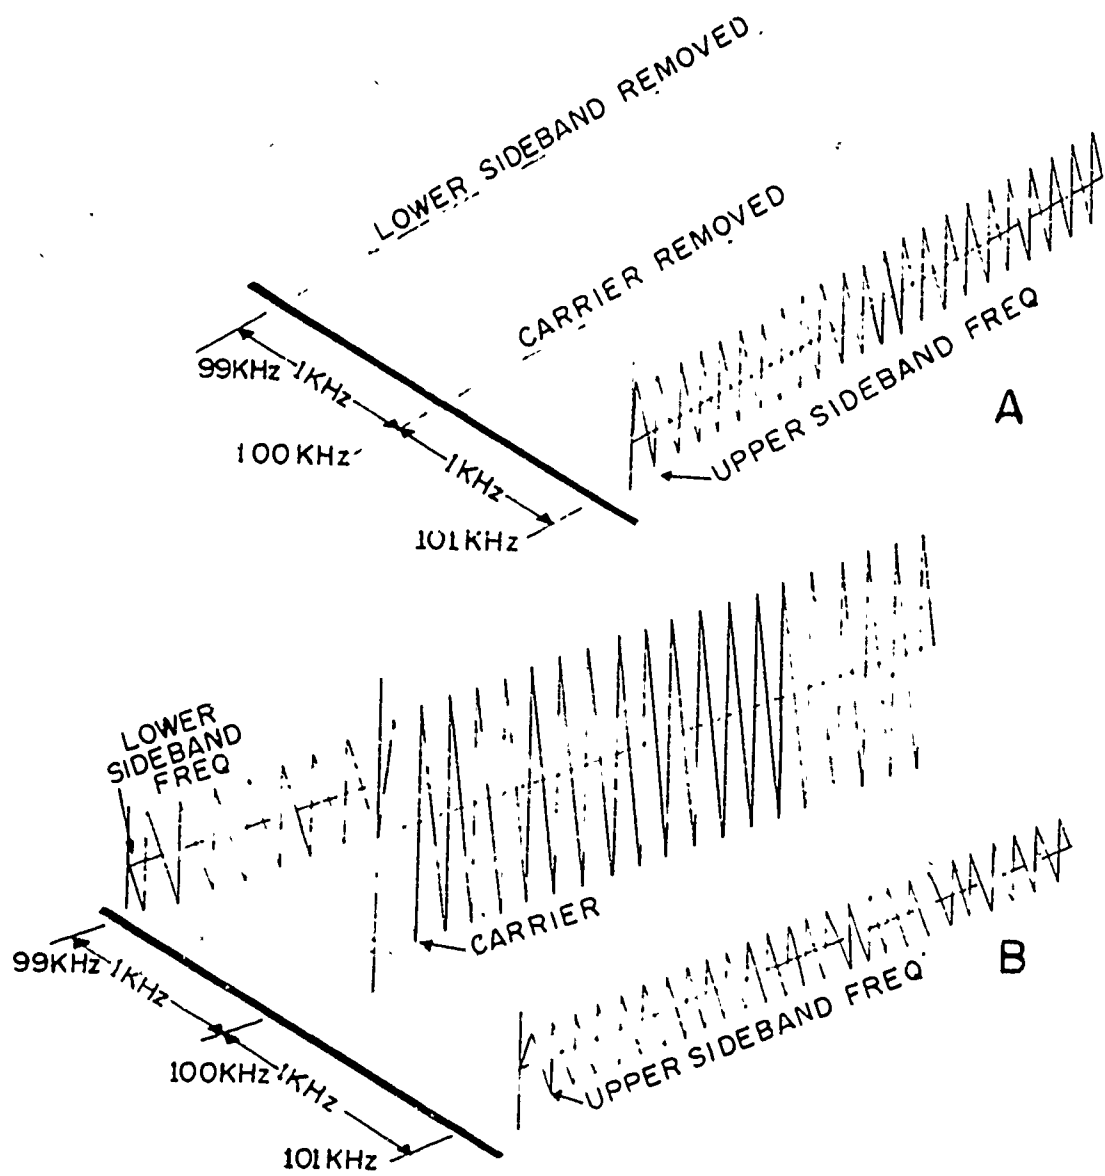

Figure 2-11. Comparison of AM and SSB.
The sideband frequencies are 101 and 99 kHz, and the center frequency is 100 kHz. The carrier wave and sidebands are illustrated in figure 2-11.
- (6) The double-sideband system is used by most broadcast radio stations. The carrier is transmitted together with the upper sideband (USB) and lower sideband (LSB) frequencies. All three are received in the radio receiver at the same time. A demodulator extracts the audio signal. The signal is amplified by an amplifier and reproduced by the speaker.
- (7) If the receiver can locally produce the same frequency as the carrier to beat with the sidebands, there is no need to transmit the carrier. Also, since both the USB and LSB carry the same information, it is not necessary to transmit both. A single-sideband (SSB) transmitter filters one sideband (either upper or lower), suppresses the carrier, and makes available the power that normally is used to transmit the carrier and both sidebands, to transmit only one sideband frequency. This is illustrated in figure 2-11. To produce at the SSB receiver a signal whose power is equivalent to the power of the signal received by the DSB receiver, the SSB transmitter requires only one-sixth of the output power required by the DSB transmitter. Since the SSB transmitter does not have to produce as much power as the DSB transmitter, the SSB transmitter can be lighter and more compact. In addition, SSB transmission also saves space in the transmitting frequency spectrum, and is less subject to interference from adjacent frequency channels.
d. Frequency Modulation. Frequency modulation (FM) is a second method of adding information to an RF carrier. This is accomplished by varying the frequency of the carrier using the audio signal developed by the microphone.